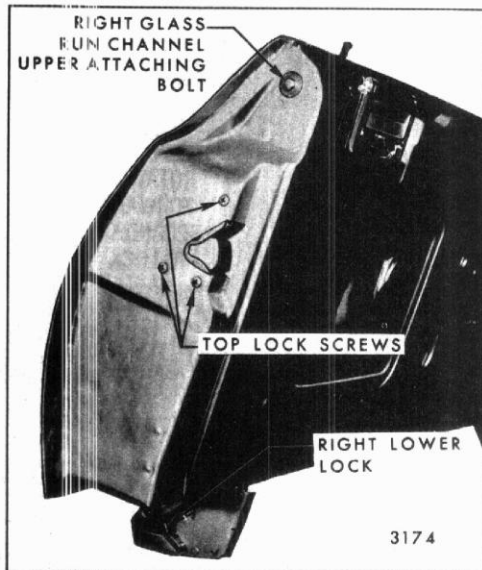

Fig. 9-15-Tail Gate Inside Handle Attachment-
2. Raise inside handle and disengage remote push rod from spring clip (See Fig. 9-15).
3. Remove screws securing handle to inner panel and remove handle (Fig. 9-15).